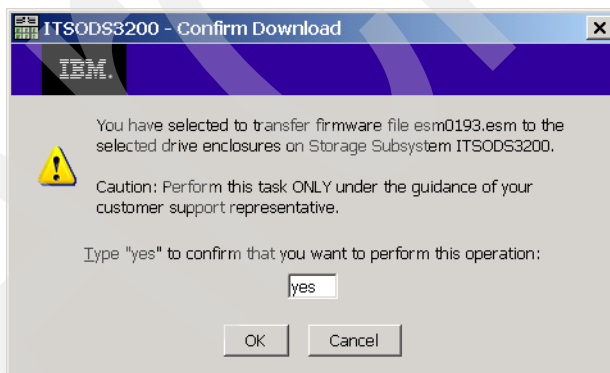

Figure 14-16 Confirm Download
- The Confirm Download window appears. Read the information, confirm it by typing in yes, and click **OK** to start the update (Figure 14-16).